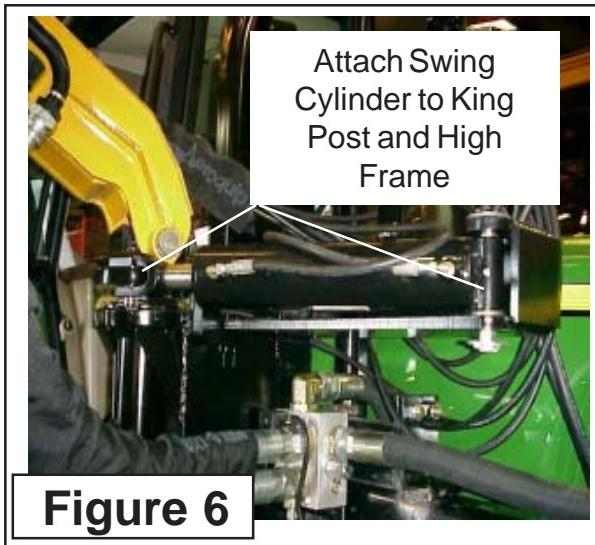

Figure 6
5. Attach the Swing Cylinder. The Swing Cylinder attaches to the King Post on the Rod End and to the High frame on the Butt end of cylinder, There are two holes on the High frame that cylinder can be connected to. The outer Hole is the one that cylinder pin should be put in for a rear swing A-Boom. A Forward Swing A-Boom is rare, majority will be rear Swing (parks to the rear for Transport.) (**See Figure 6 & 7**).